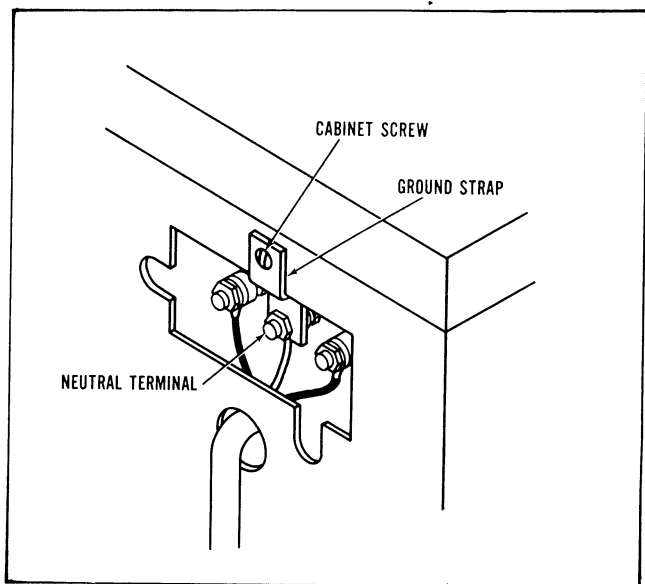

Figure 4
Neutral terminal grounding is accomplished by fastening one end of the ground strap (furnished with electric dryers only) to the silver colored (N) terminal on the terminal block. The opposite end of this ground strap is attached to the cabinet by using the screw immediately above the terminal block opening, *Figure 4*.